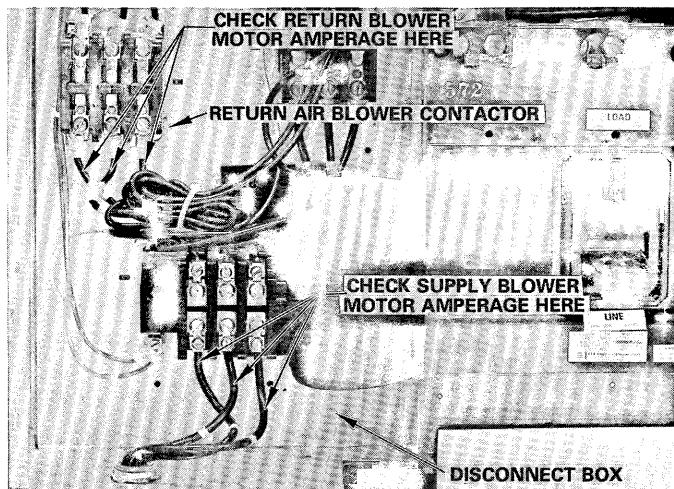

FIGURE 38
- 4 - Check amperage draw on each of the (3) wiring leads to the motor and compare with amps on motor nameplate. Refer to Figure 38.